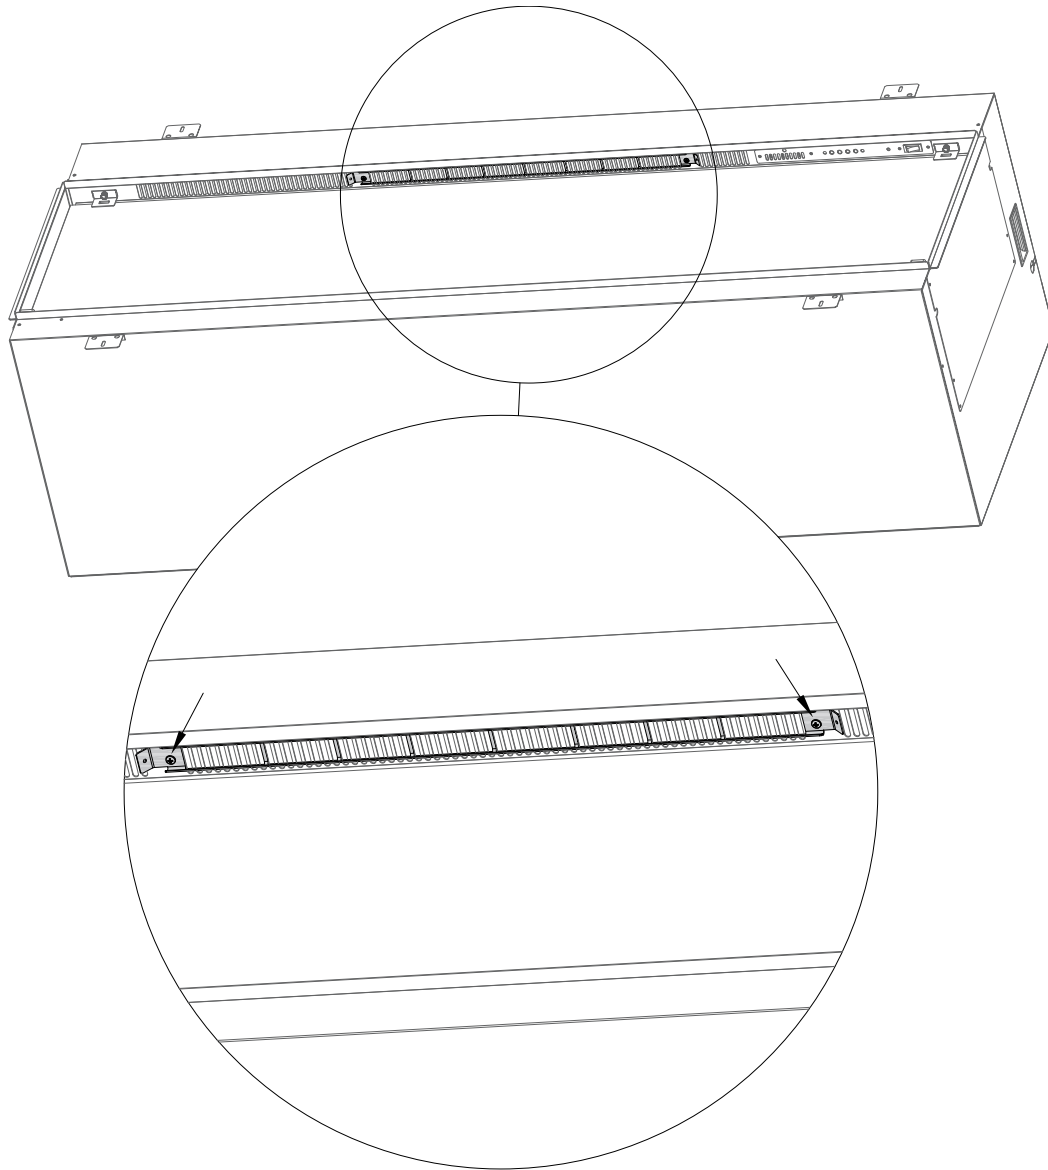

Figure 2.10 - Install new heater air deflector bracket
2. Install the new heater air deflector bracket that has the support flanges on the ends as shown in Figure 2.10.